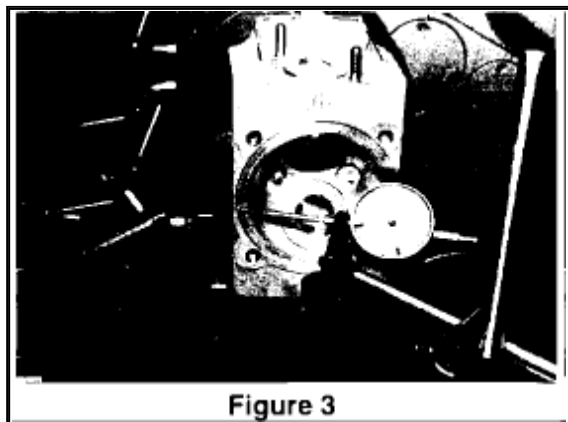

Figure 3
4. Check lateral and radial cylinder head run-out with dial gauge (Figure 3). If necessary, lateral run-out must be adjusted on lathe. Radial run-out can be adjusted by loosening the mounting nuts and repositioning the cylinder head on special tool 9526 as required.